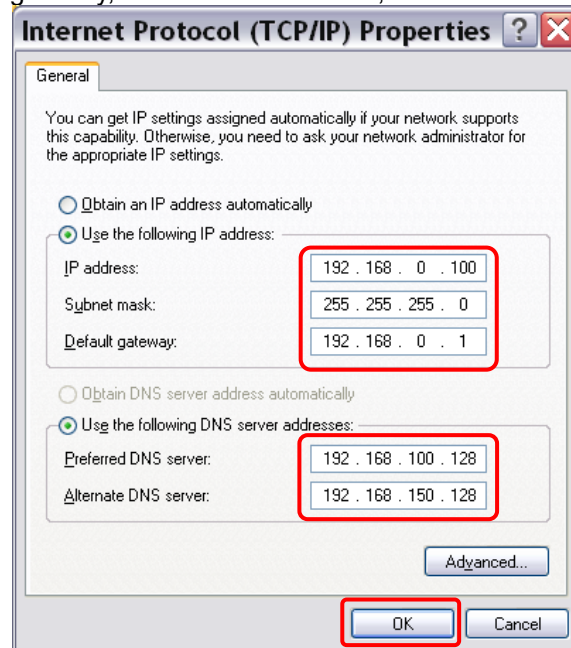

Figure4-6 TCP/IP Properties
- b) After a) operation, confirm that the screen of figure 4-6 is displayed, input the value which is specified by customer LAN administrator in IP address, Subnet mask, Default gateway, Preferred DNS server, Alternate DNS server and click [OK].